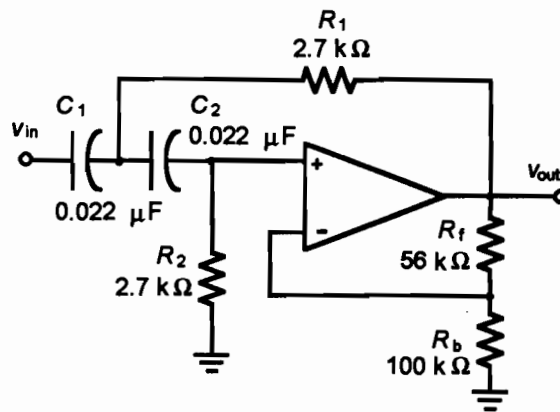

Figure 62.2
4. Build the high-pass filter circuit of Figure 62.2. Apply DC power.
7. Calculate the gain and cutoff frequency for the high-pass filter of Figure 62.2.